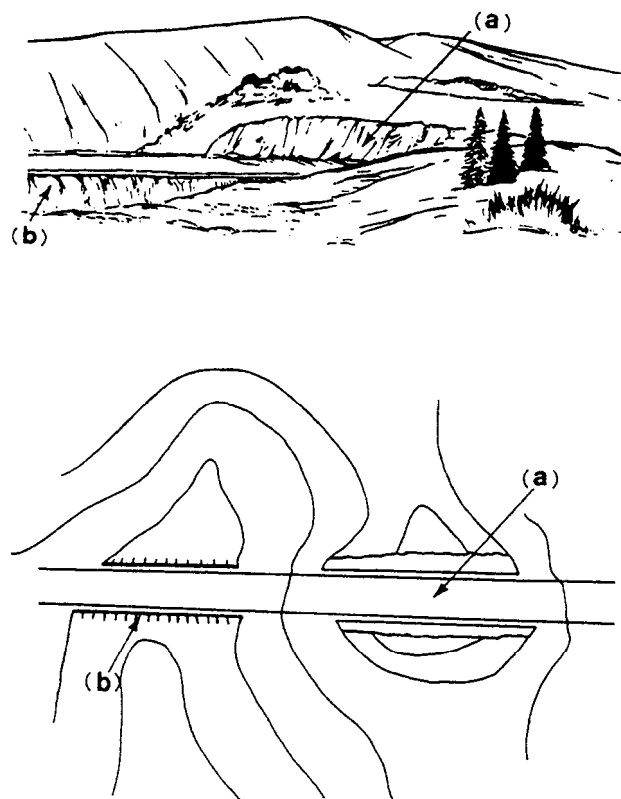

Figure 5-16.—(a) Cut; (b) Fill.
8. **CUTS and FILLS.** Cuts and fills are man-made features caused when the bed of a road or railroad is graded or leveled by cutting through high areas and filling in low areas along the right-of-way. (See fig. 5-16, views A and B, top and bottom.)